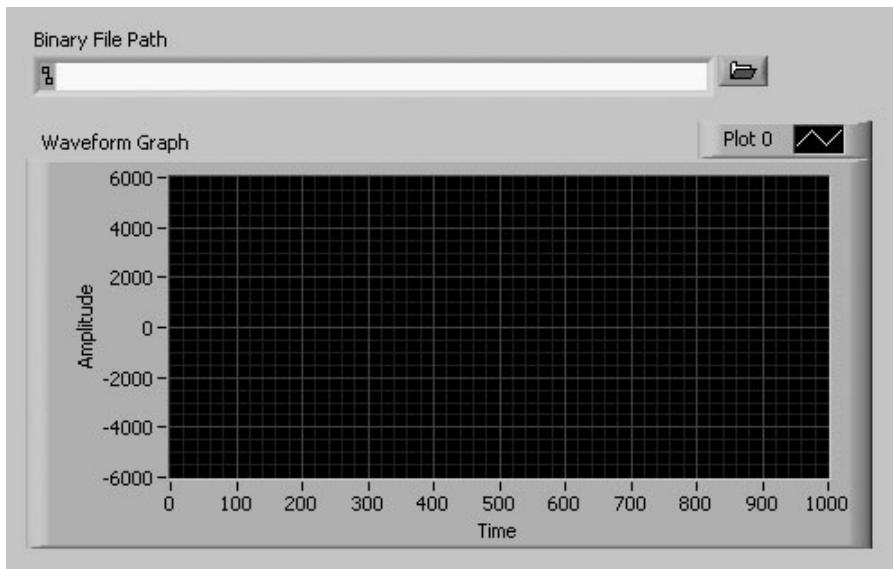

Figure 9.47
4. Now let's build the VI that can read the binary file you just created. Create a front panel and block diagram like the ones shown in Figures 9.47 and 9.48.